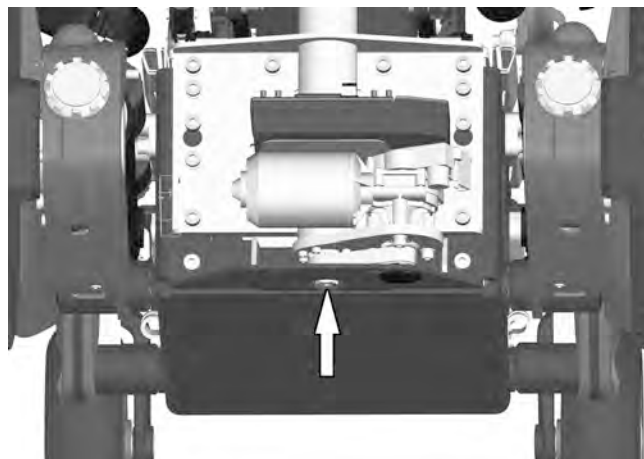

Figure 80. Remove the protective rubber cover underneath the chassis to get access to the seat elevator axle.
10. Remove the protective rubber cover underneath the chassis to get access to the seat elevator axle. See fig. 80. In the figure the wheelchair is shown without the front chassis cover for better view, however the front chassis cover do not need to be removed.
3. Use the supplied spanner to manually adjust the angle of the seat elevator i.e rotate the seat elevator axle. It is accessed through the hole in the bottom of the chassis. See fig. 80.